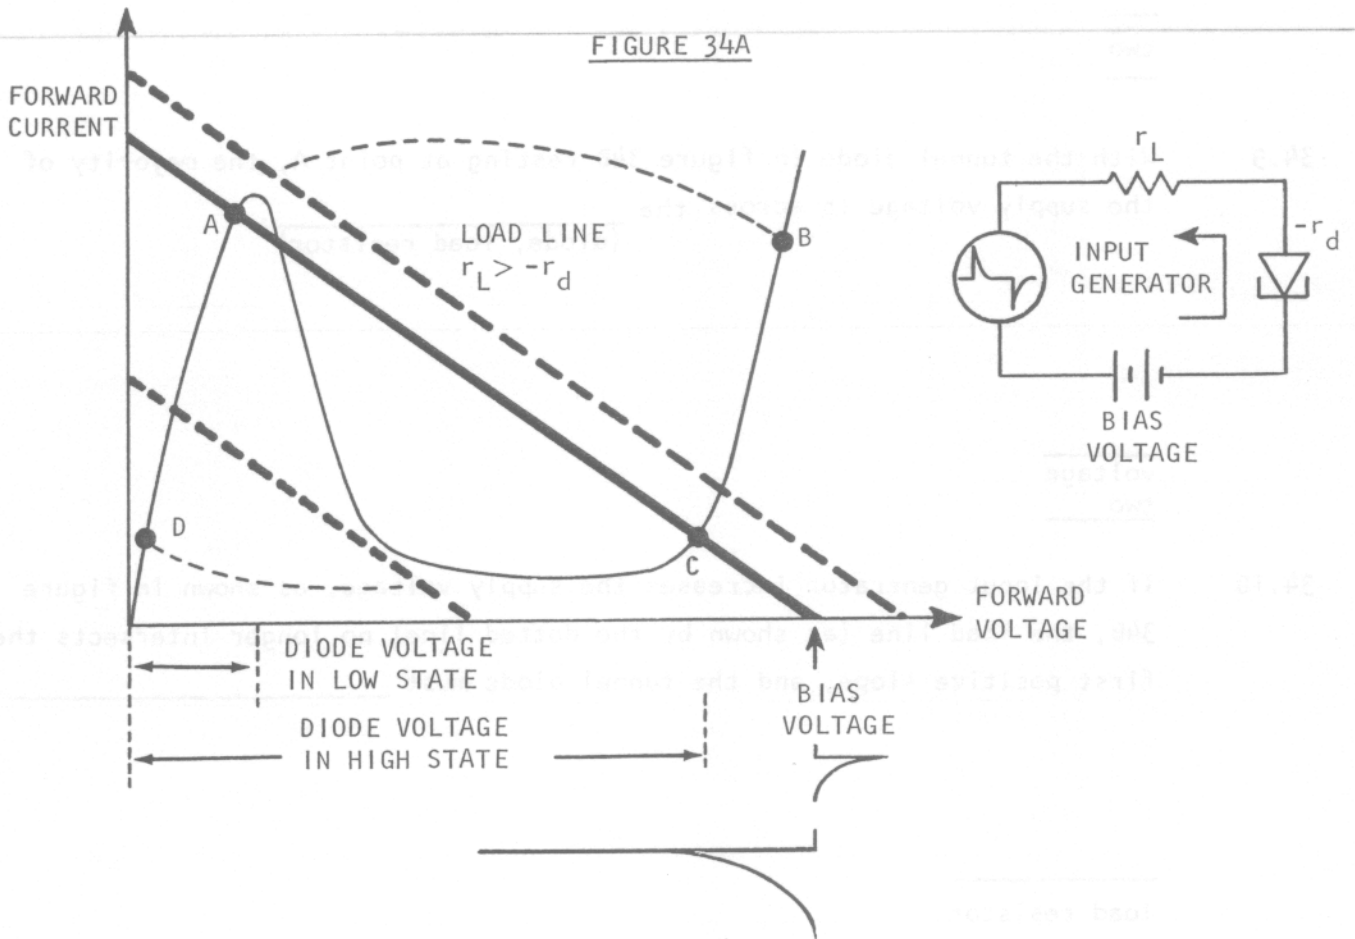

FIGURE 34B
34.11 The diode switched to somewhere near point B and then rests at point C in figure 34B. In this state, the majority of the supply voltage is across the _____.
34.12 With the tunnel diode resting at point C, if the input generator reduces the supply voltage until the load line no longer intersects the second positive slope (as shown by the dashed line in figure 34B), the tunnel diode switches to its _____ state.
34.13 The tunnel diode initially switches to a point near point D in figure 34B when switched from its high to its low state. It then rests at point A again. The driving generator must move the load line below the _____ voltage to switch the diode from its high to its low state.